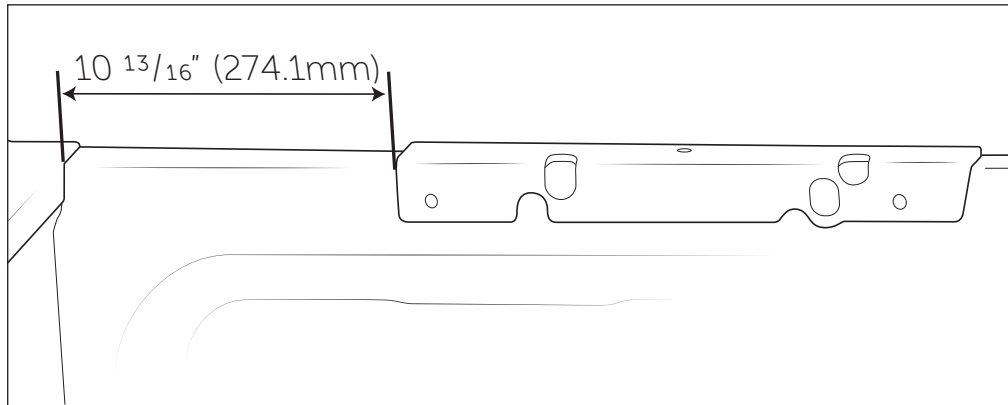

Figure 3
1. Place the Bulkhead Bracket into position **approximately** $10 \frac{13}{16}$ " from plastic bed rail (fig. 3). NOTE: This measurement is for **REFERENCE ONLY**. Step 3 will help in final alignment.